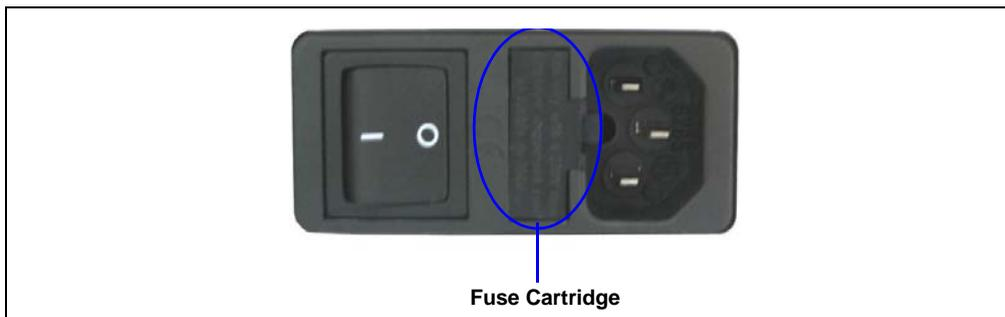

Figure 5-9. Main Power Switch, Fuse Cartridge, and Power Receptacle
3. The fuse cartridge is located next to the main power switch (see Figure 5-9). Use a small screwdriver to remove the fuse cartridge.